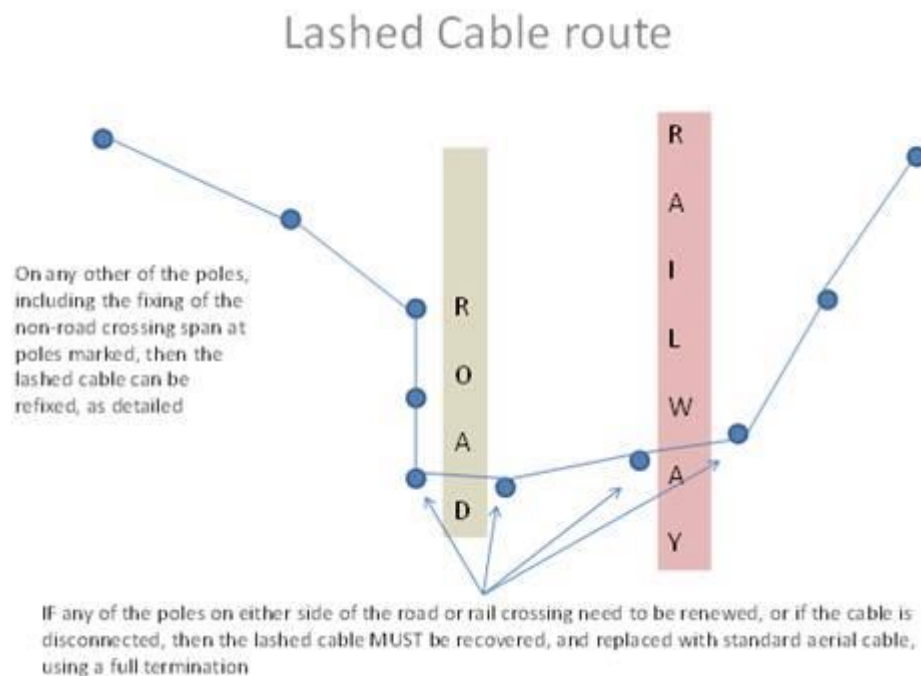

Figure 26: 'Lashed' cable route
- See Figure 26, below, for more detail: